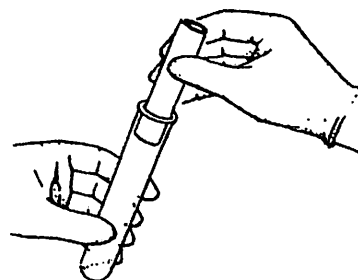

Figure 1-4
2. Remove a spoonful of sodium chloride from its reagent bottle. In order to transfer the sodium chloride to a test tube, first place it on a piece of glazed paper about 10 cm square. Roll the paper into a cylinder and slide it into a test tube that is lying flat on the table. When you lift the tube to a vertical position and tap the paper gently, the solid will slide down into the test tube. See Figure 1-4.